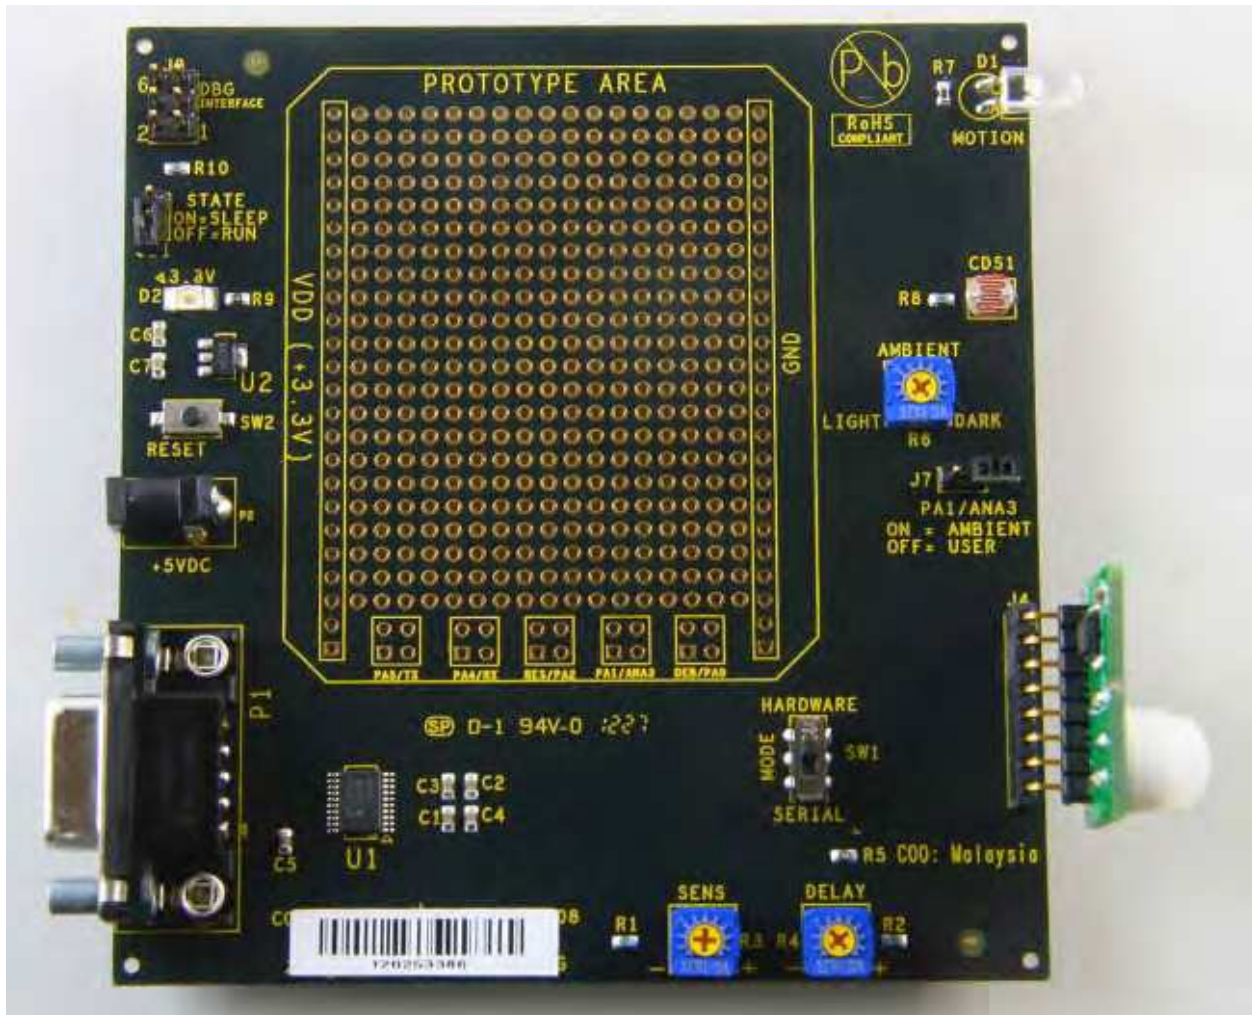

Figure 2. Overhead View of the ZDMII Evaluation Board Showing the ZDMII Module and the AMBIENT, SENS and DELAY Pots
Figure 2 shows the ZDMII Module connected to the ZDMII Evaluation Board.
2. Turn the AMBIENT potentiometer fully counterclockwise, towards `Light`, to set the ambient light threshold to its maximum brightness, as shown in Figure 2 on page 4. Essentially, the maximum amount of ambient light will be required to disable the Motion Detection output (LED). For details about the AMBIENT pot, see the Ambient Light Threshold section on page 8.
4. Turn the AMBIENT potentiometer fully counterclockwise, towards Light, to set the ambient light threshold to its maximum brightness, as shown in Figure 2 on page 4. Essentially, the maximum amount of ambient will be required to disable the Motion